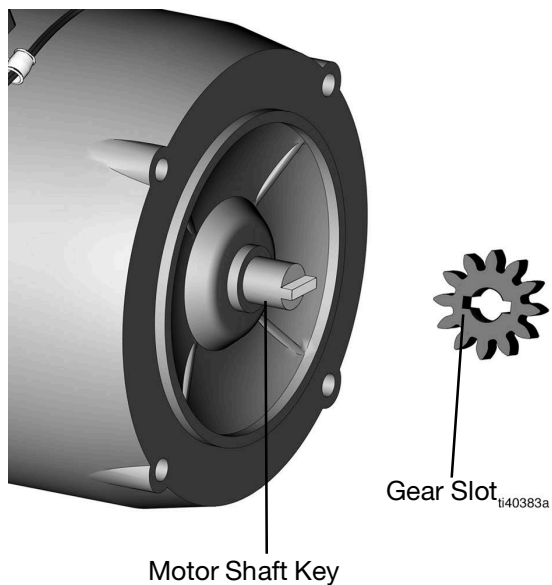

FIG. 6
1. Put the pump housing assembly onto the motor. The motor shaft key should match the slot on the gear on the inside cover (FIG. 6).